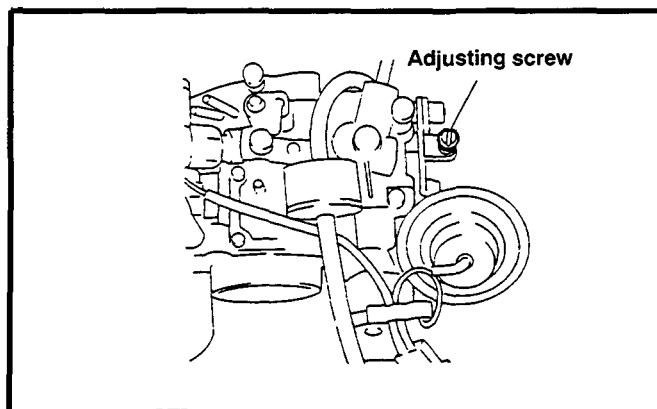

Figure 31.
3. Use the adjustment screw to obtain the correct rpm. See Figure 31.